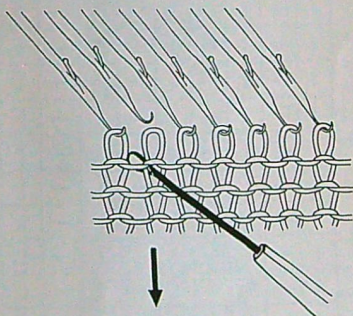

Fig. 36
- (1) Knit two row in Plain stitch. As shown in Fig. 36, insert the latch tool second underneath stitch. Remove the stitch from the needle and shake the latch tool with the stitch on the stem of the latch tool and ladder one stitch.